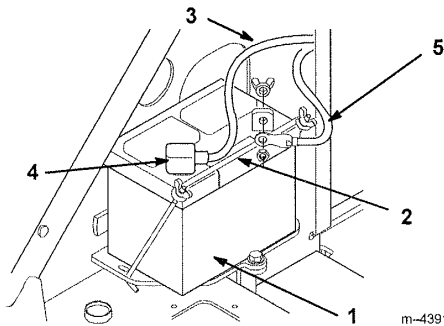

Figure 3
2. Remove the wing nuts and bar securing the battery (Fig. 3).
10. Install the battery into the chassis (Fig. 3).
11. Secure the battery with the bar and wing nuts removed previously (Fig. 3).
12. Using the bolt and wing nut supplied with the battery, connect the positive (red) cable to the positive (+) battery post (Fig. 3). Slide the rubber cover over the battery post.
13. Using the bolt and wing nut supplied with the battery, connect the negative (black) cable to the negative (–) battery post (Fig. 3).